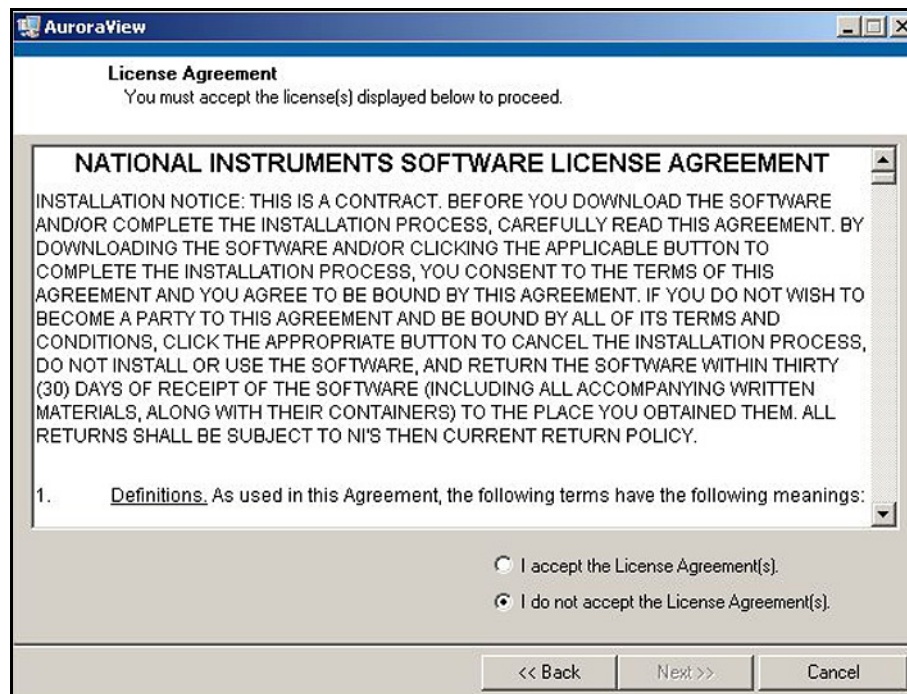

Figure 50: Software License Agreement
- The next screen (see *Figure 50* below) provides the opportunity to change installation locations if desired. When ready, click Next.
- At the next screen, accept the *Software License Agreement* (see *Figure 50* below) and click Next.